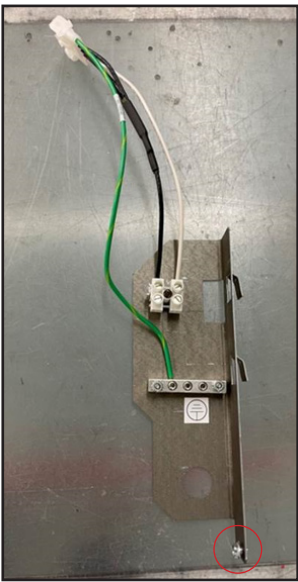
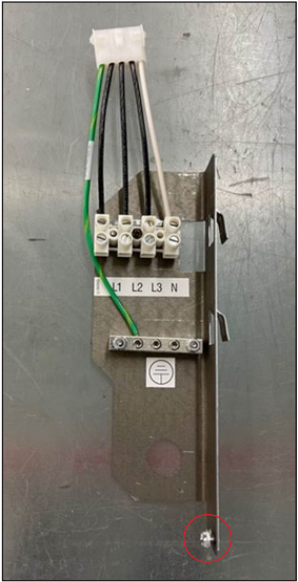

Figure 6: 1-Phase Power Entrance
Figure 7: 3-Phase Power Entrance
- 1. Use a 5/16" nutdriver to remove the screw from the mounting plate. Refer to **Figure 6** and **Figure 7**.